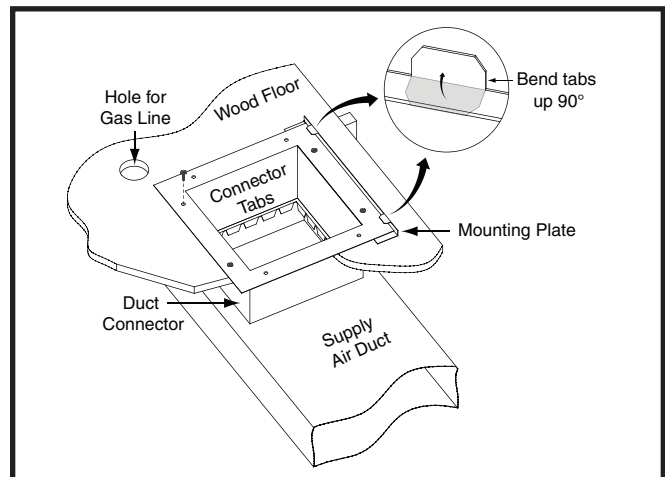

Figure 9. Standard Duct Connector Installed
2. Mark the cut-out area on the supply air duct by tracing around the connector tabs of the duct connector. See Figure 9 \(page 7\).
5. Install the mounting plate under the back side of the duct connector as shown in Figure 9. Align the screw holes in both components.